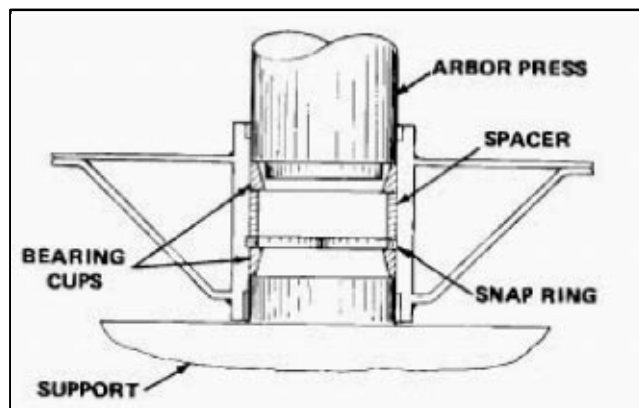

Figure 28
The lower shaft (Fig. 28, Item 10) and upper shaft (16) should have a very small amount of bearing drag. If the shaft turns hard, the cap (12) or (22) must be removed and gaskets (13, 14, or 15) need to be added. If the shaft has no bearing drag, or has end play, the cap must be removed and gaskets taken out. The cap must be adjusted so the shaft has no end play and only a slight amount of bearing drag.